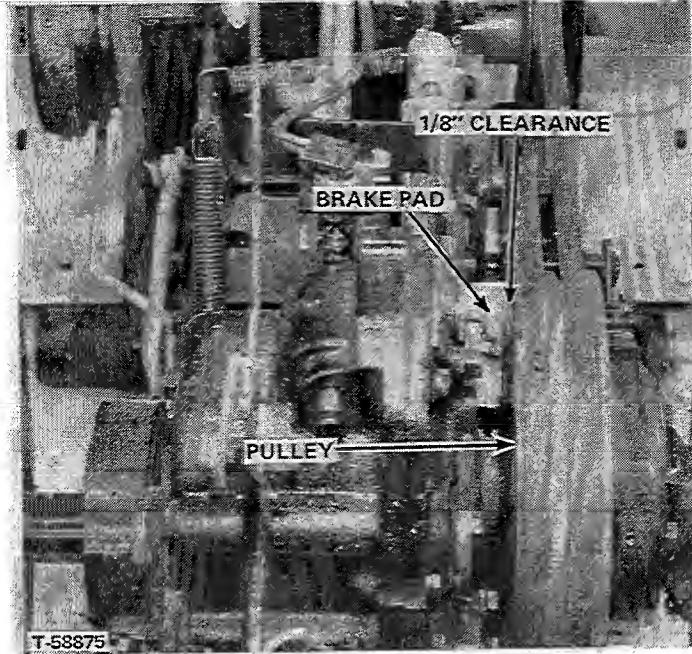
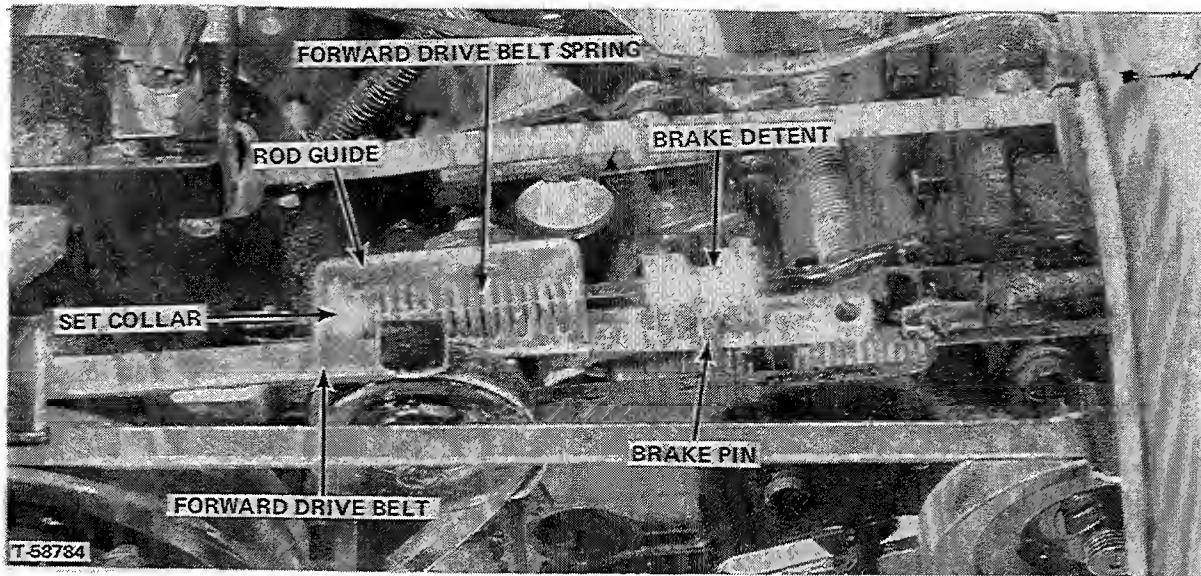
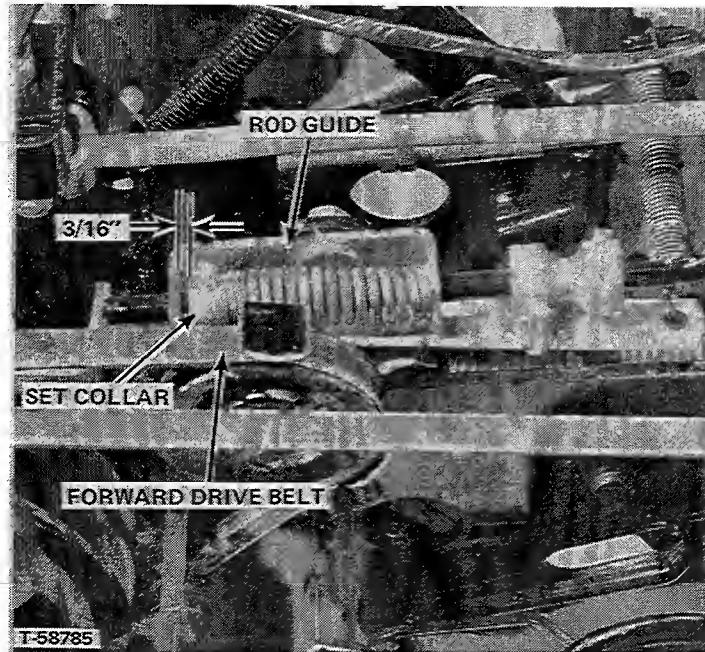

FIGURE 42 - (Control Lever Fully Forward)
FIGURE 43 - Control Lever in Neutral
FIGURE 44 - Control Lever in Forward Position
8. With control lever in full forward position adjust brake pad assembly, (Figure 42), to have $1/8$ inch clearance between pad and surface of pulley. Check with control lever in full rear position, clearance between brake pad and pulley must be at least $1/16$ " or more, if less readjust to a full $1/16$ " clearance. With the control lever in neutral there must be at least $1/16$ " clearance between brake pin and notch of brake detent (Figure 43).
9. With control lever in neutral position loosen setscrew in set collar behind forward drive belt spring (Figure 43). Move rod guide assembly and spring forward until slack is taken out of forward drive belt. Tighten setscrew. Move control lever to the full forward position. There should now be $3/16$ " clearance between rear surface of set collar and rear leg of rod guide assembly (Figure 44). If necessary reset set collar to obtain the $3/16$ " dimension when control lever is fully forward.